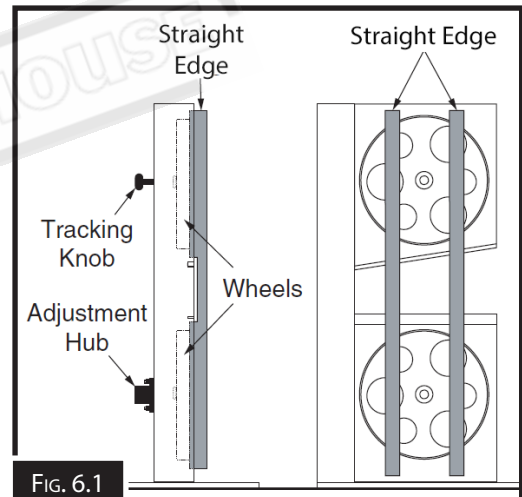

FIG. 6.1
4. Place the straight edges against both wheels in the positions shown in Fig. 6.1